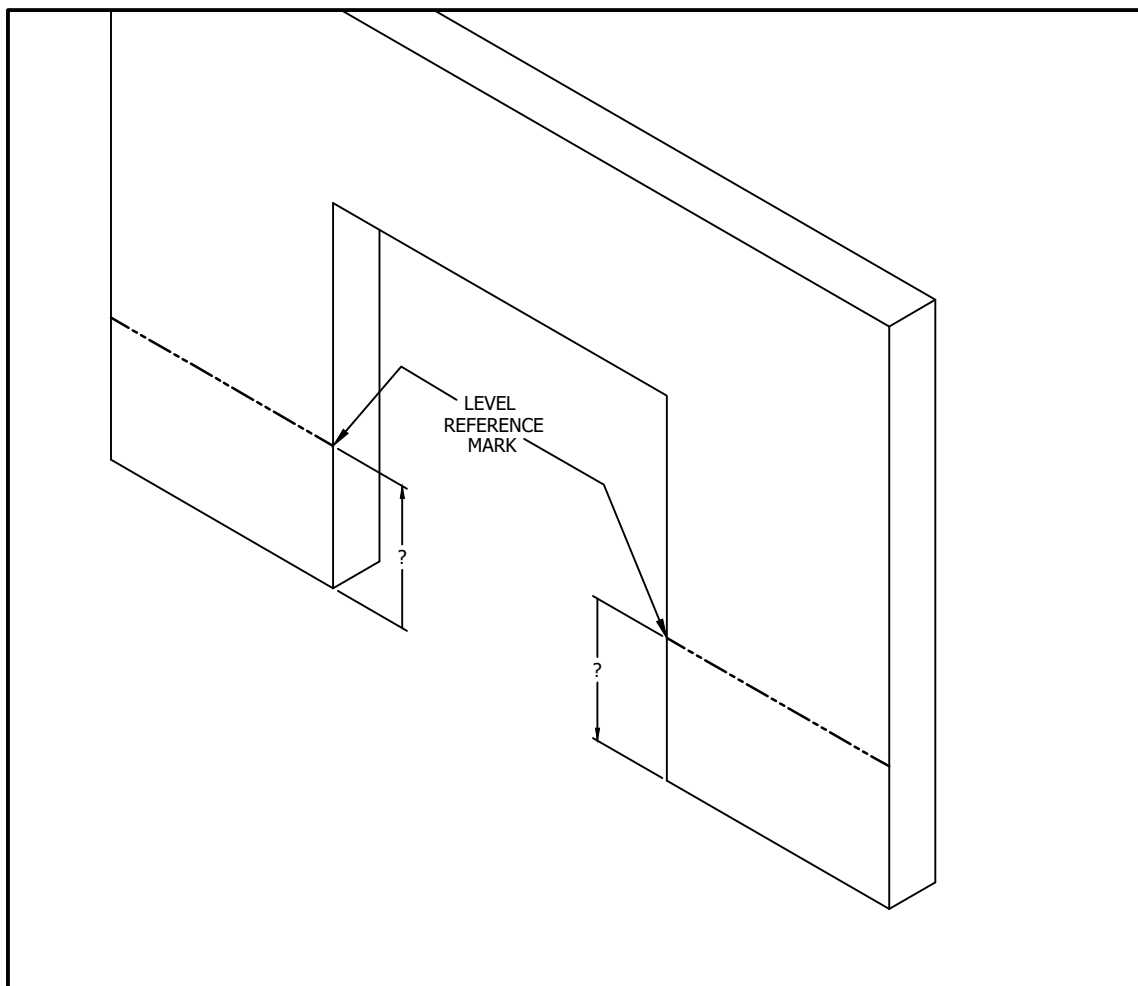

FIGURE 4
- a. Create level elevation marks at left and right jamb faces using a level reference device or survey instrument as shown in Figure 4.
- ✓ Guide angles are designed to be set upon the floor unless one angle requires the use of shims at the floor level to create level guide elevations as shown in Figure 4 (Page 5).